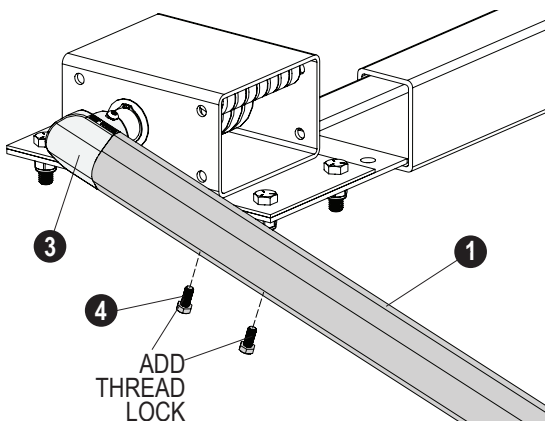

FIG. 106
- Slide the **arms (1)** onto the installed **castings (3)**. Depending on the mounting height of the spring boxes, the castings may need to be rotated upward to install the lower arms.
- Secure each lower arm to a casting with two **hex cap screws (4)**. Apply threadlocker to screw threads before tightening, see Figure 106.